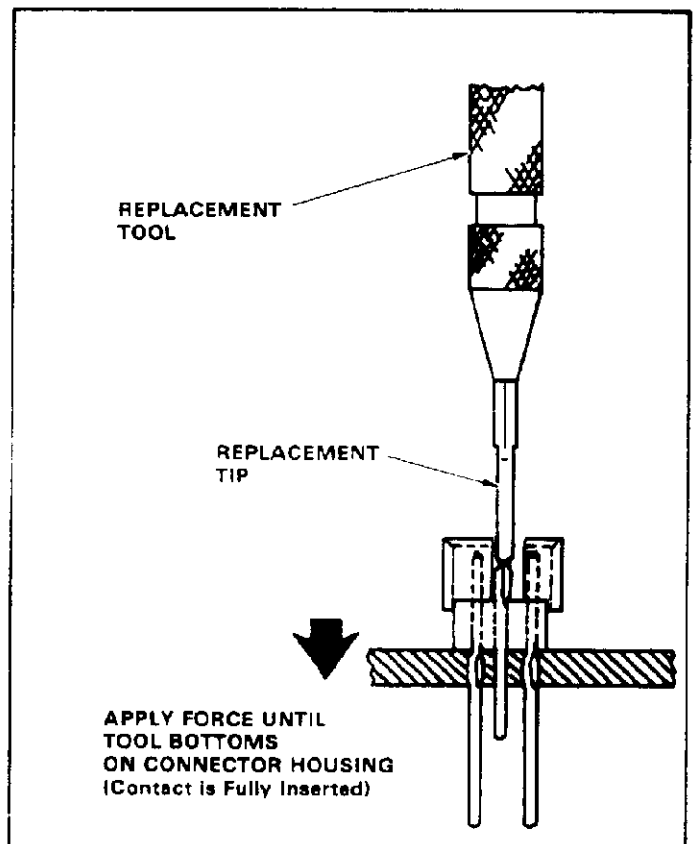

Fig. 6
B. Replacing Pin Contacts (Figure 6)
3. Fit hole in replacement tip over contact, rotate tool 90° to locate contact in position, and apply force in direction of arrow. See Figure 6.